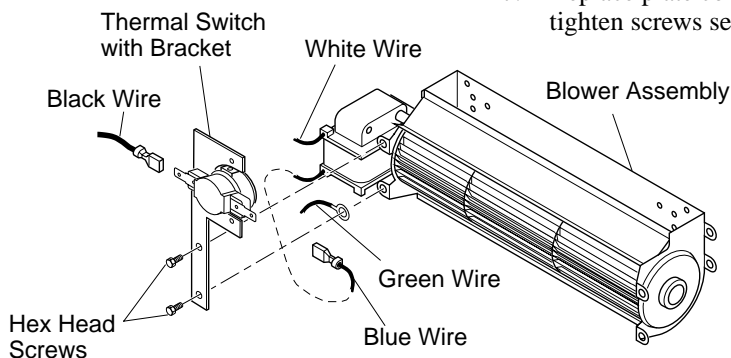

Figure 30 - Attaching Thermal Switch to DA3610T Thermostatically Controlled Blower Accessory
1. Remove the two hex head screws on the blower assembly as shown in Figure 30.